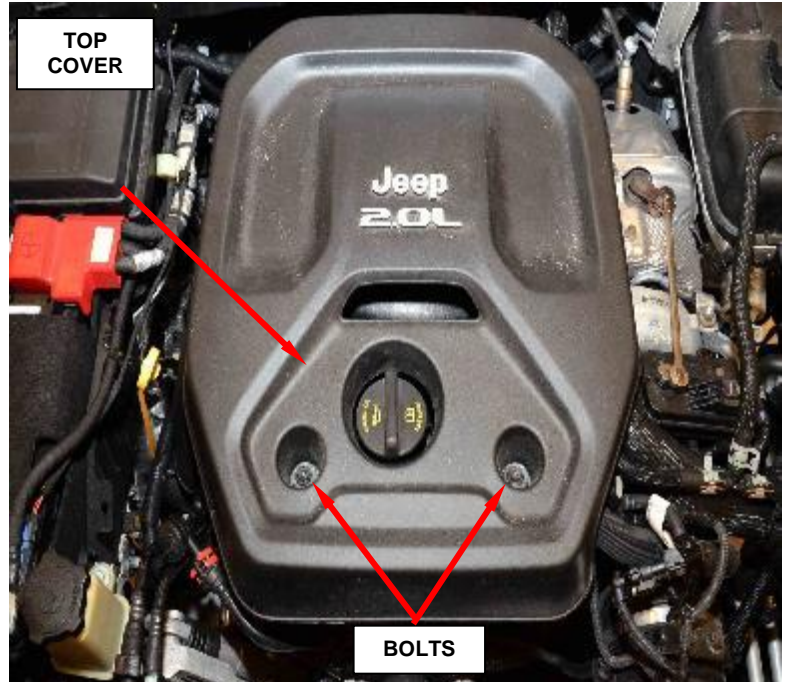

Figure 1 – Engine Top Cover
3. Remove the two top engine cover bolts and remove the engine top cover from the two ball studs (Figure 1).